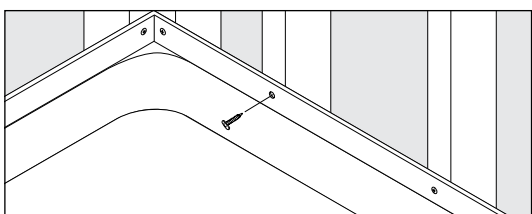

FIGURE 5. If needed, shim between nail flange and stud(s) for tight fit. Screw flange to all studs.
- Once leveled, screw nail flange to all studs (Fig 5).